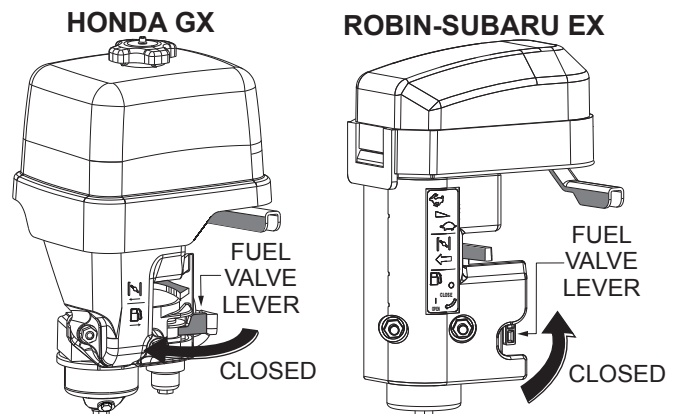

Figure 42. Fuel Valve Lever (CLOSED)
4. Place the fuel valve lever in the **CLOSED** position (Figure 42).